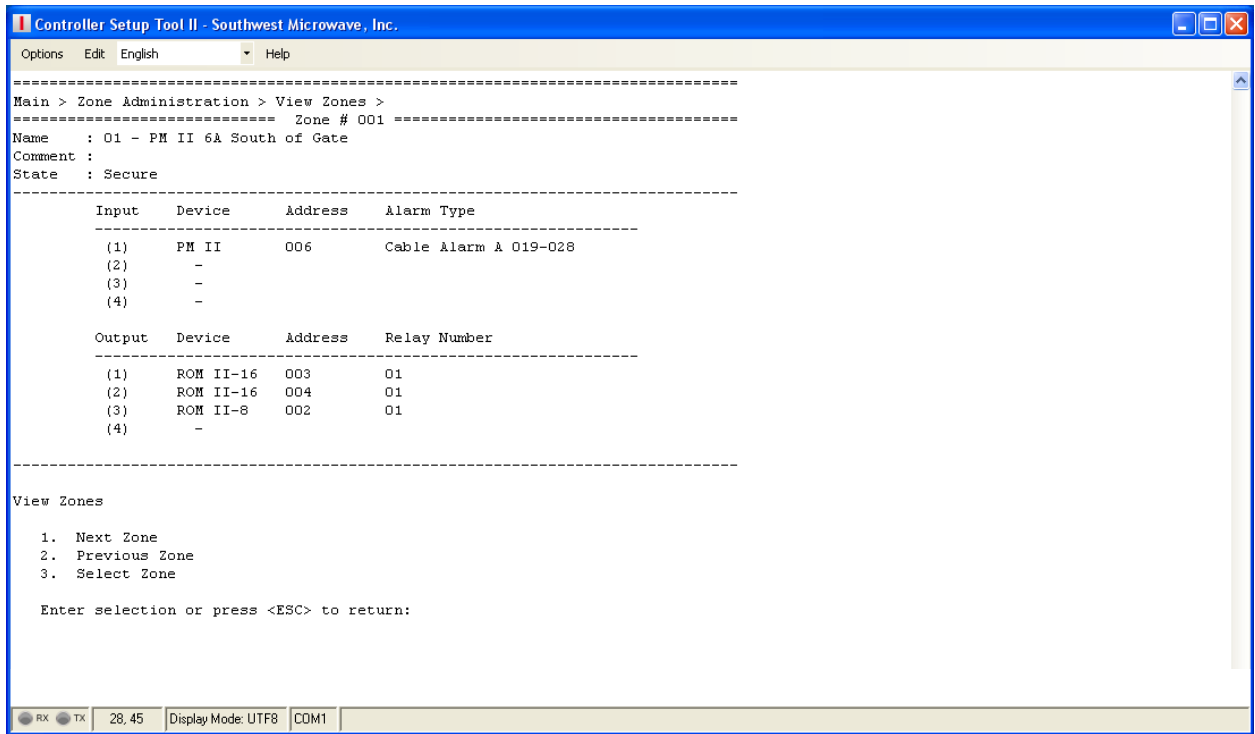

Figure 44 – View Zones Screen
Selecting command 4 from the Zone Administration Menu will open the “View Zones” screen as shown in Figure 44. There will be three (3) command selections available: Next Zone, Previous Zone and Select Zone. Once a Zone Record has been completed, any existing Zone Record can be viewed using this menu. Next (1) and Previous (2) tab through all defined Zone Records. Select Zone (3) allows selecting of the zone to be viewed. No changes or edits can be made from this screen.